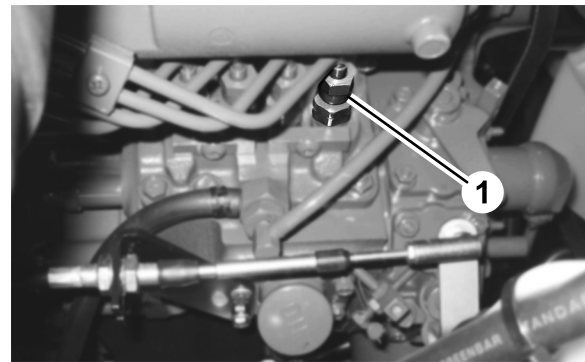

Figure 52
1. Loosen the tube connection to the Number 1 injector nozzle and holder assembly at the injection pump (Figure 52).